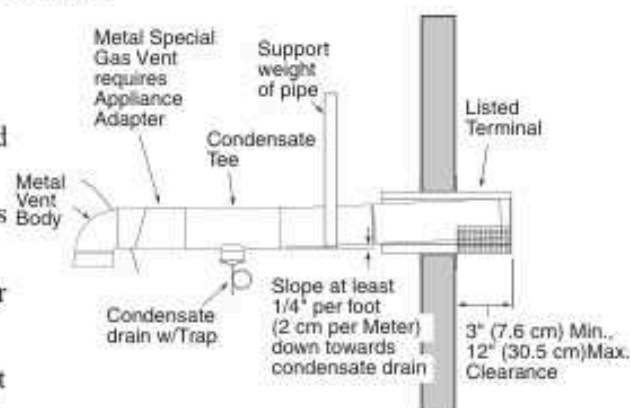

Figure 23.
- at least 3" and at most 12" out from the wall (see Figure 23), following the vent manufacturer's instructions